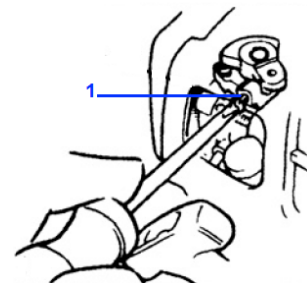

Fig.14
2. If the cutting attachment rotates at engine idle, reduce idle speed by turning the idle adjusting screw counter clockwise as necessary. (Fig.14)